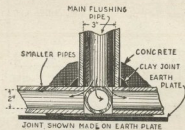

Fig. 3. Showing how the five pipes are joined to prevent leakage.
For those who do not readily understand the wiring diagram of Fig. 4, the complete view of the apparatus in Fig. 3 will help illustrate more clearly the method of connections. Thus an aluminum from one jar is connected with a lead from another jar to one side of the house current line. Then the other side of the line is connected to an aluminum and a lead plate from the other two jars, as in the first case, but in series with a resistance (R) placed at S. This leaves two aluminums and two leads free, the two lead plates connected together forming the negative (-) terminal of the charging side, while the two aluminum plates are likewise connected and form the positive (+) terminal of the D.C. side.
The size of the resistance is dependent upon the battery to be charged. If an "A" battery is used, an electric-iron plug is screwed into the socket (S), Fig. 3. If none is handy, then the following idea may be of interest, also because of its economy. Extract a single fuse from the box in the cellar, and insert a plug from a light cord whose other end terminates in a plug screwed into the socket (S). Now, by going upstairs and switching on a half-dozen lights or so in the house, you can, besides charging your battery in the cellar, also peruse leisurely the evening paper in the parlor, on the same electric bill.
Constructional details and wiring diagrams of the "A-and-B"-battery charger. The rectifier is of the electrolytic type, employing aluminum and lead plates. The amount of current delivered is dependent on the size of the lamp, or other form of resistance inserted into the socket S shown in Fig. 3. R in Fig. 4 represents the resistance placed in series with the circuit to control the current flow. This corresponds to S in Fig. 3.
Care must be taken to get a really sound joint between the upright main pipe and the four smaller ones. (See Fig. 3). The